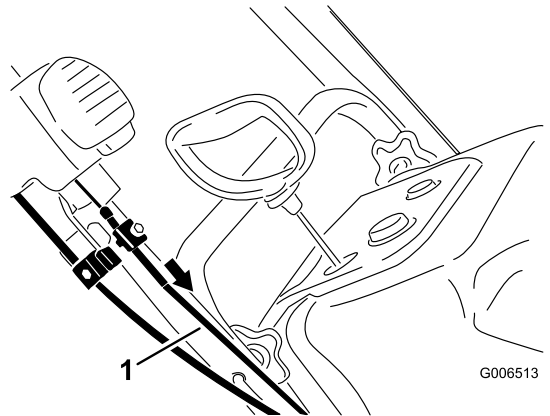

Figure 34
5. Pull the upper cable casing forward until you remove all the slack from the cable, and tighten the screw on the upper cable clamp securely (Figure 34).